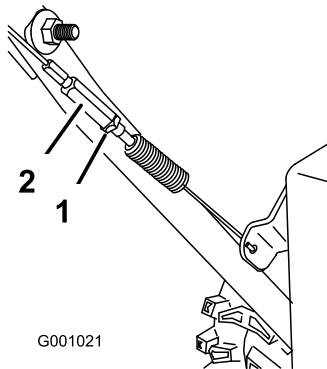

Figure 40
3. Tighten the jam nut (Figure 40).